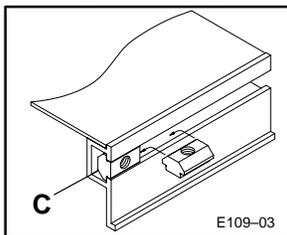

Figure 3: Drop-in T-bar Installation Detail
- a. Insert two (2) Single Drop-in T-bars into conveyor T-slot by rolling Nuts into position (Figure 3).